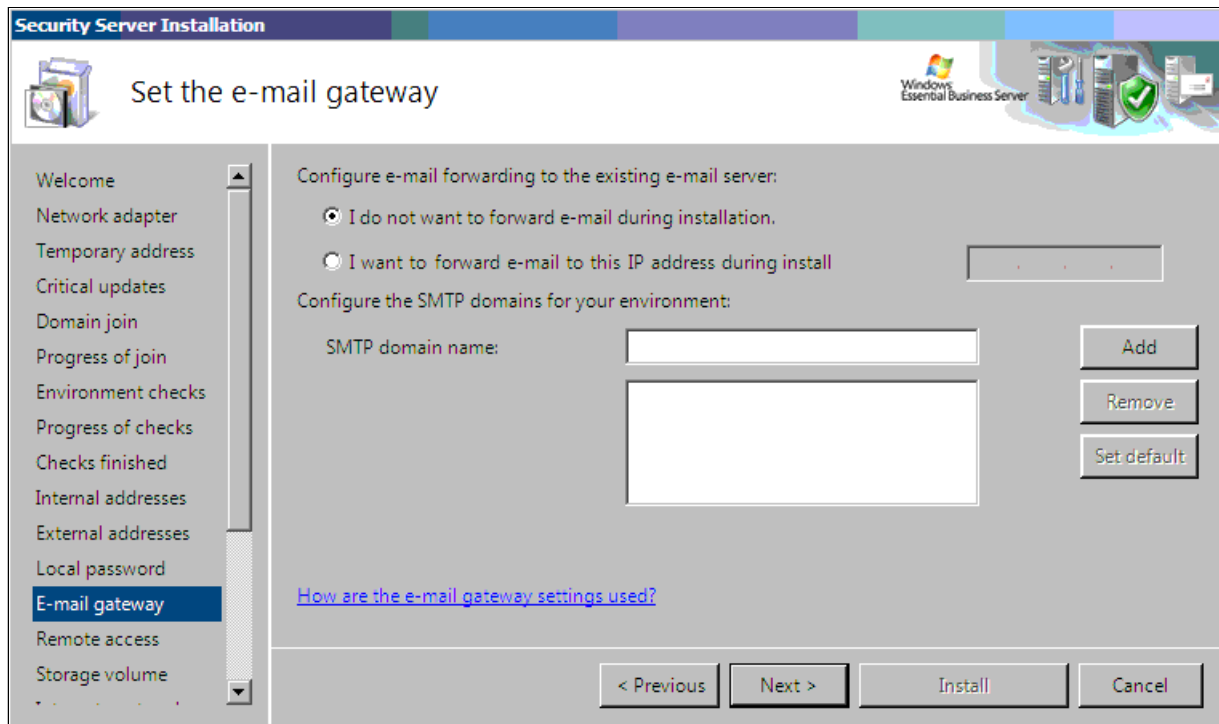

Figure 4-30 Set the e-mail gateway
20. On the “Set the e-mail gateway” panel (Figure 4-30), configure the settings that allow external e-mail traffic through the Security Server during the remainder of the installation. The settings that you can configure depend on whether the installation wizard detects a compatible version of exchange server in your environment.